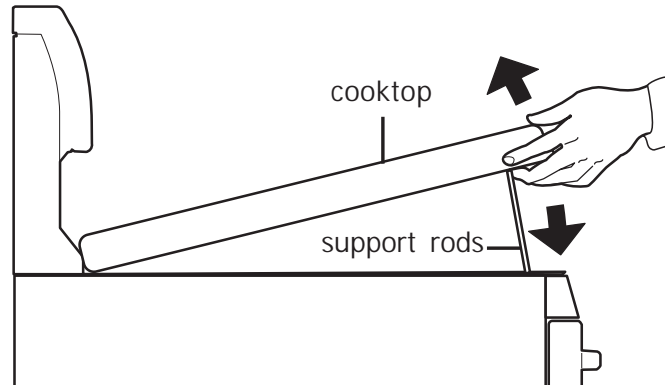

Figure 23: Lifting cooktop
1. Grasp the sides and lift from the front (See Figure 23). Lift-up rods will support the top in a raised position. Only lift the cook top far enough to allow the support rods to snap into place.